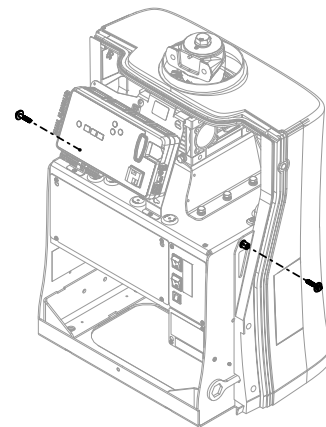

Figure 25. Install M6 Hex Bolts to Latch Posts.
3. Install M6 hex bolts at the front cover latch posts (Figure 25).